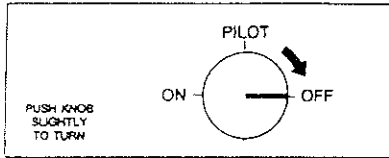

Figure 15. Rotate control valve to OFF position for both pilot and burner shutdown.
2. Push in gas control knob slightly and turn clockwise (↻) to the "OFF" position. (See Figure 15.)
1. Push in gas control knob slightly and turn clockwise (↻) to "OFF". Do not force. (See Figure 15.)